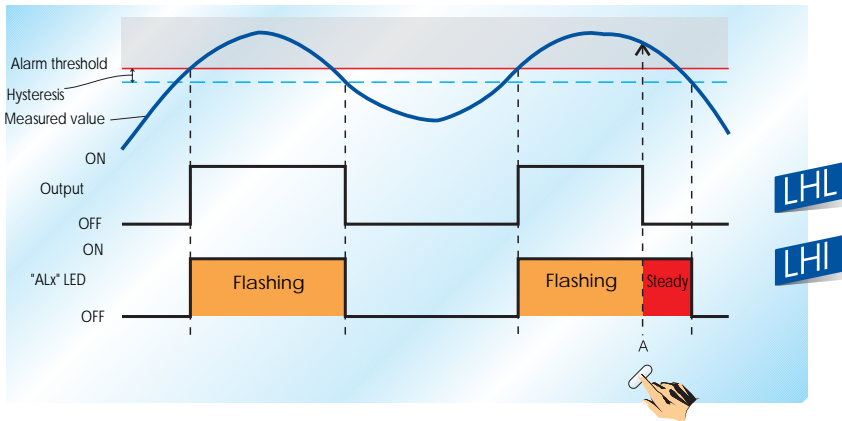

Figure 5
**Note:** the "Silence" function is a typical function of the alarm annunciators (see ISA alarm annunciator operational sequence) and it is usually applied to audible alarm indications (horns). For other details see figure 5.